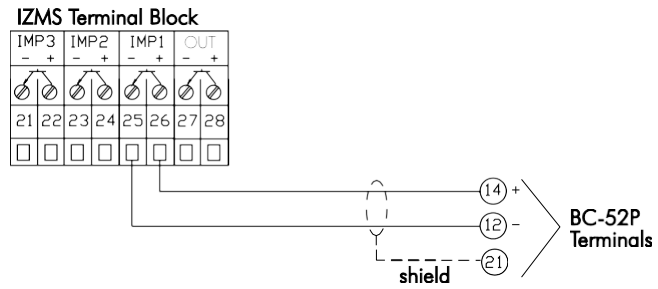

Figure 3-12. BC-52P Batching Controller Signal Wiring Configuration
- P BC-52P Batching Controller (Figure 3-12)